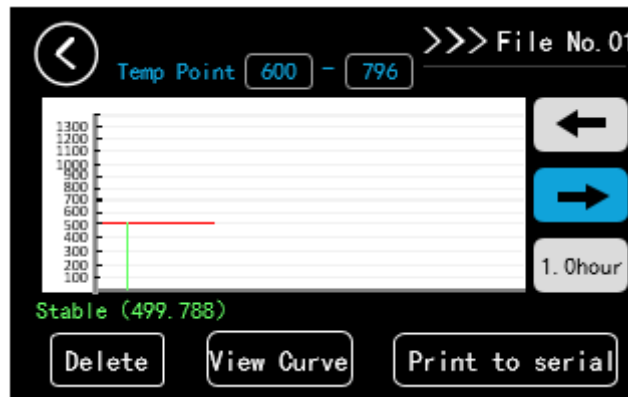

Fig 4.15 Viewing Curve Graph
- 2) **Graph viewing:** File for empty point press no response; the date of temperature control in the files is displayed as curve graph, that is, historical curves, as shown in Figure4.15. Empty files will give no response when clicking.
When temperature control reaches stability, the current measured temperature will be displayed in green as shown in Fig 4.15